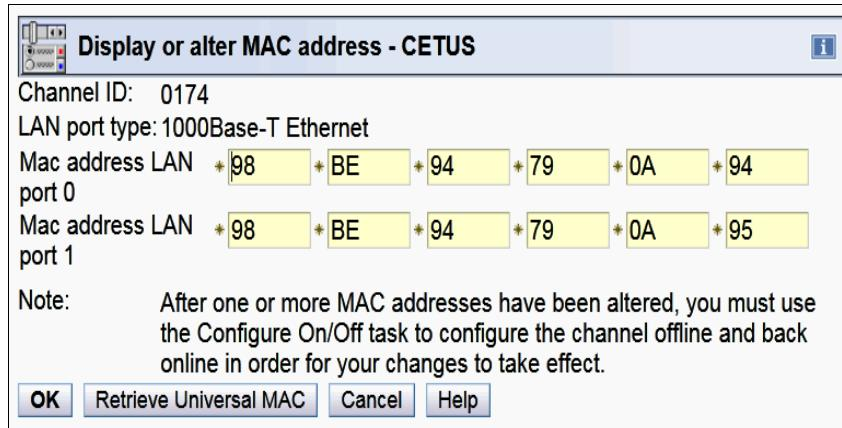

Figure 6-24 Display or alter MAC address values
3. The Display or alter MAC address window opens (Figure 6-24). Set the MAC address that you want and then click **OK**.